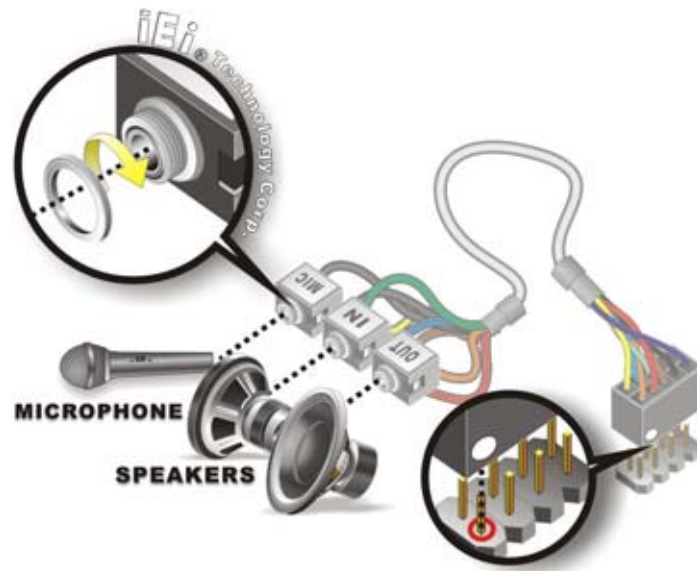

Figure 4-9: Audio Kit Cable Connection
Step 9: **Align pin 1.** Align pin 1 on the on-board connector with pin 1 on the audio kit connector. Pin 1 on the audio kit connector is indicated with a white dot. See **Figure 4-9.**